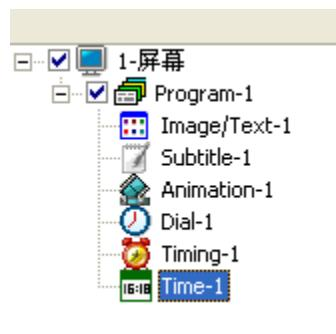

figure 3-21
- ◆ Time click time button, add new time area in the current screen, as shown in figure 3-21, set the time attributes as your require. More details about time attributes setting ,please check in “4.6 time attributes”